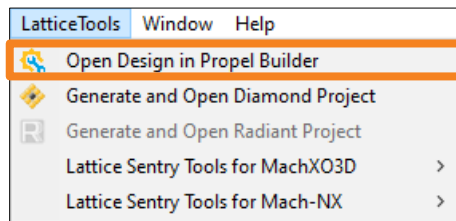

Figure 3.13. LatticeTools Menu
- Choose **LatticeTools** > **Open Design in Propel Builder** (Figure 3.13).